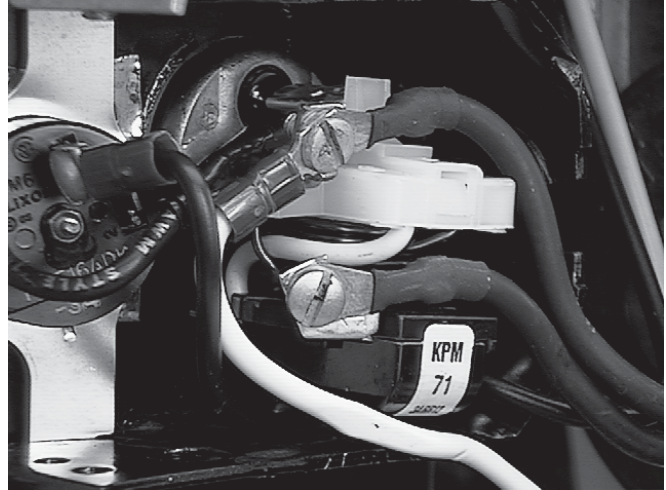

Figure 40. Electrical Wires
2. Identify and remove the white and black supply wires. Figure 40.